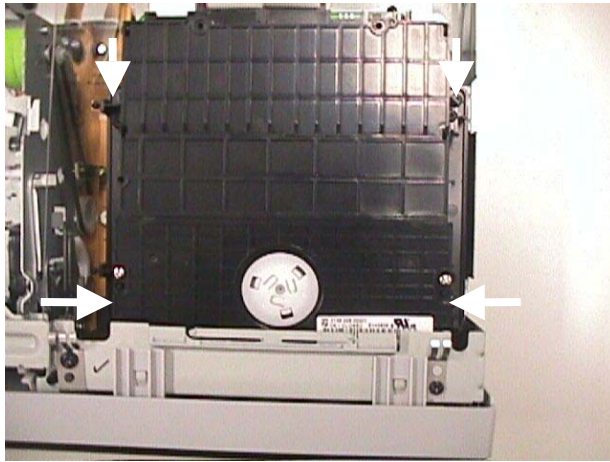

Figure 6 – Remove the outer 4 screws to detach the Holder
- 1) In order to dismantle the Digital Board 1001, remove the Basic Engine assembly (180+1005) first. Remove the outer 4 screws and detach the Holder 180 together with Basic Engine 1005 as in figure 6.